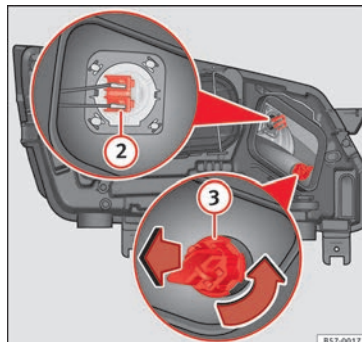

Fig. 107 In the engine compartment: main beam headlight bulb ② and turn signal bulb ③.
3. Slide connector » **Fig. 107** ② to the left or right and pull.
3. Turn the bulb holder » Fig. 107 ③ anticlockwise and pull.